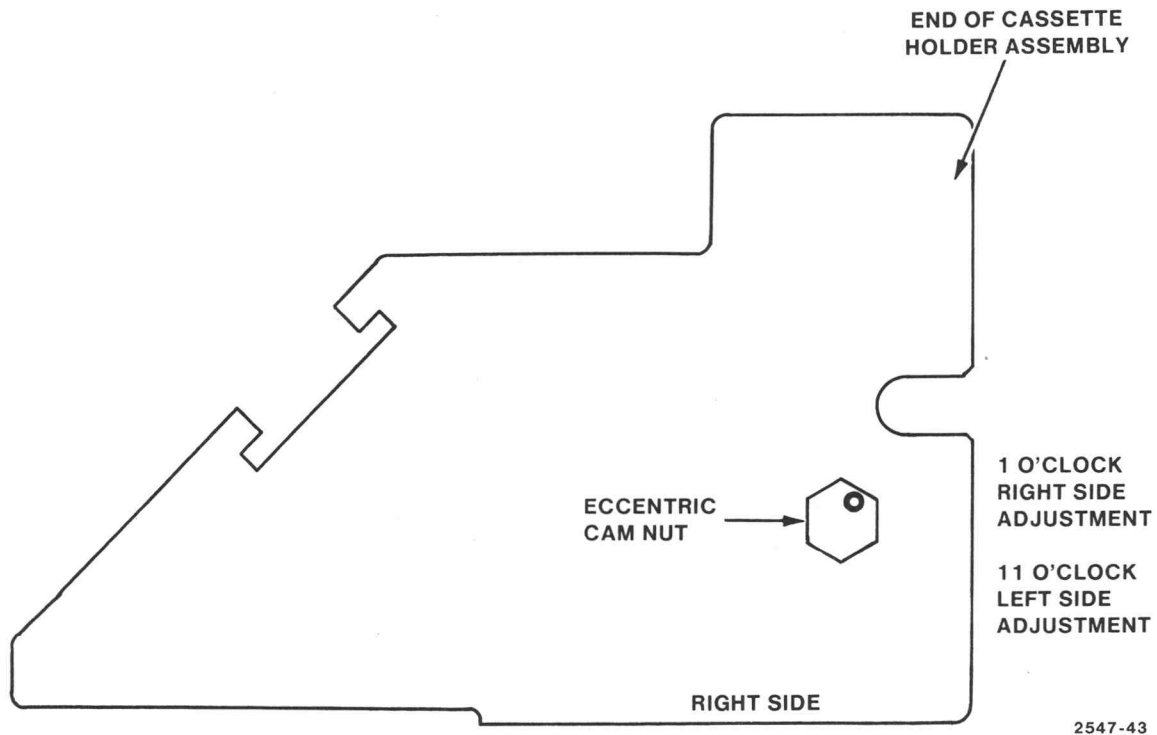

Figure 4-13. Eccentric Cam Nuts for Adjusting Rollers.
1. With the cassette holder removed, locate the eccentric cam nuts on each side of the roller assembly (Figure 4-13) and mark the position of these cams.
7. If the paper does not appear even, adjust the cam nuts, using the special Roller Adjusting Wrench. (The part number for this wrench may be found in the Replaceable Mechanical Parts section under "Optional Accessories".) The normal orientation for these cams is close to that shown in Figure 4-13.